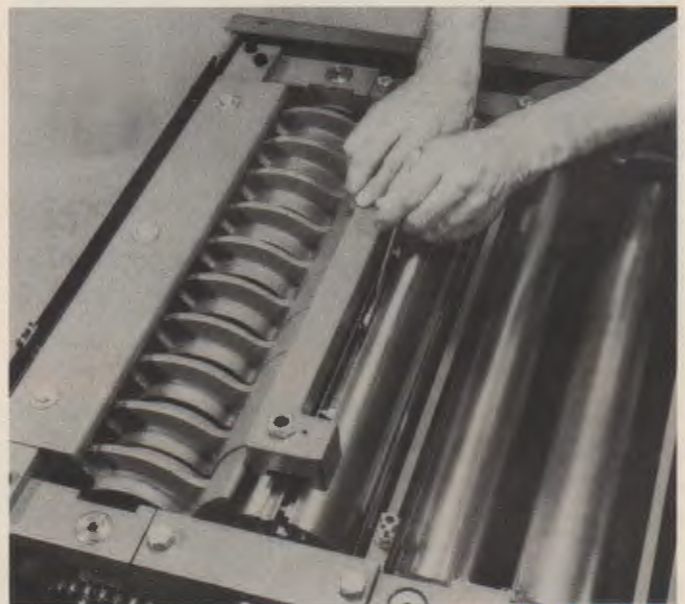

Fig. 23-31. Loosen gib retaining screws to remove planer knives. (Delta)
2. Loosen the gib retaining screws, Fig. 23-31. They hold the gibs against the knives. Pull up and away from the cutting edge to prevent cutting yourself. Accumulated resins might make the screws difficult to loosen. Use mineral spirits or paint thinner to dissolve resin.